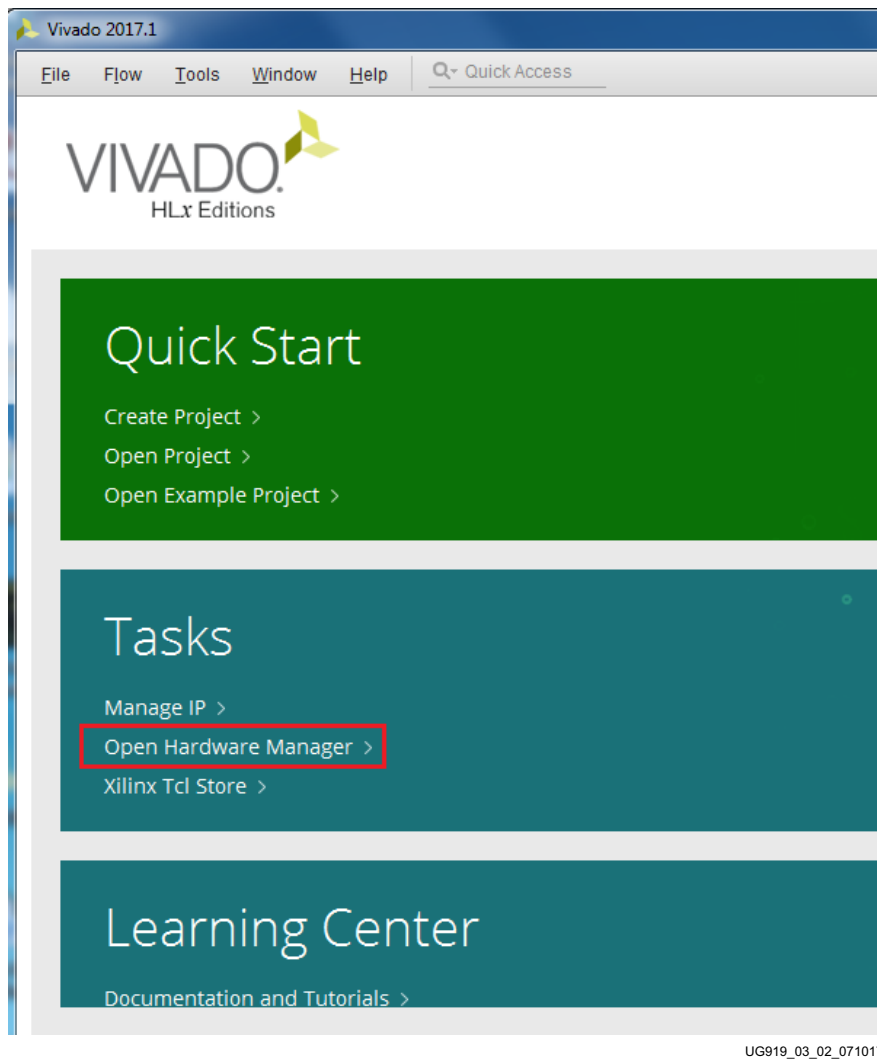

Figure 3-2: Vivado IDE Getting Started Page, Open Hardware Manager
- b. On the getting started page, click **Open Hardware Manager** (Figure 3-2).